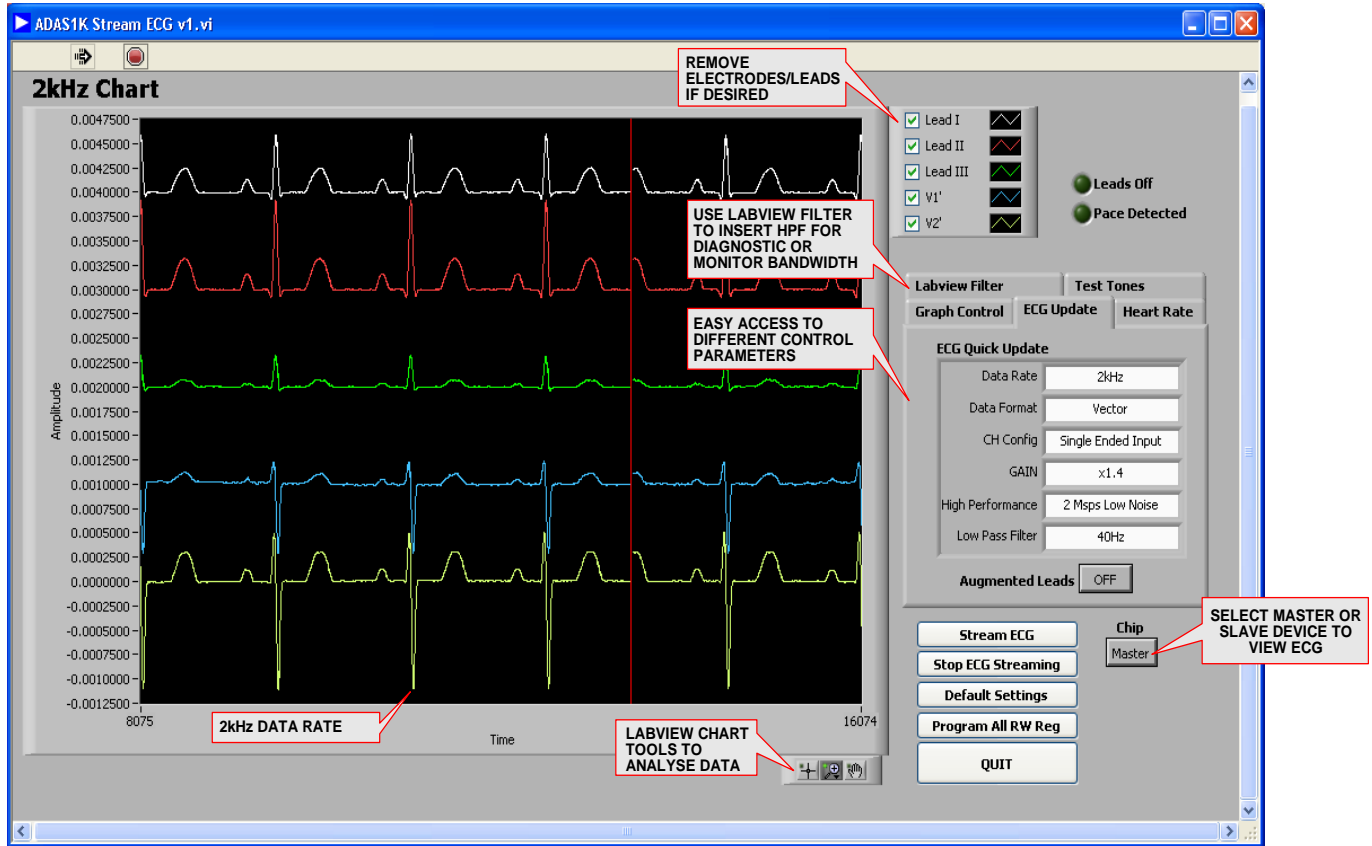

Figure 16. ECG Capture Window with Extra Filtering
1. Once the appropriate registers are configured to start a capture, proceed to the ECG capture window. The ADAS1000 starts streaming ECG data. The signal shown in Figure 16 is a 60 bpm signal coming from the Fluke PS420 simulator.